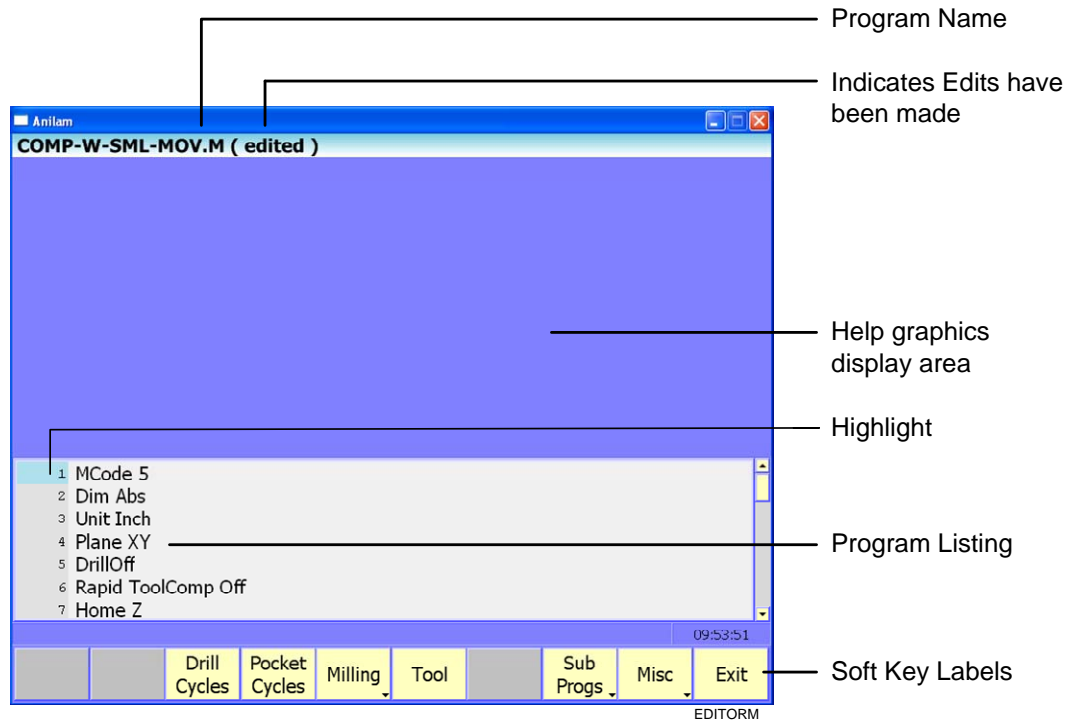

Figure 5-1, Program Editor
The Program Editor monitors mode changes written to a program. The mode indicators displayed in the Program Editor indicate the CNC's active modes. Refer to **Figure 5-1**.
- ❑ Default set, normally visible. Refer to **Figure 5-1, Program Editor**.